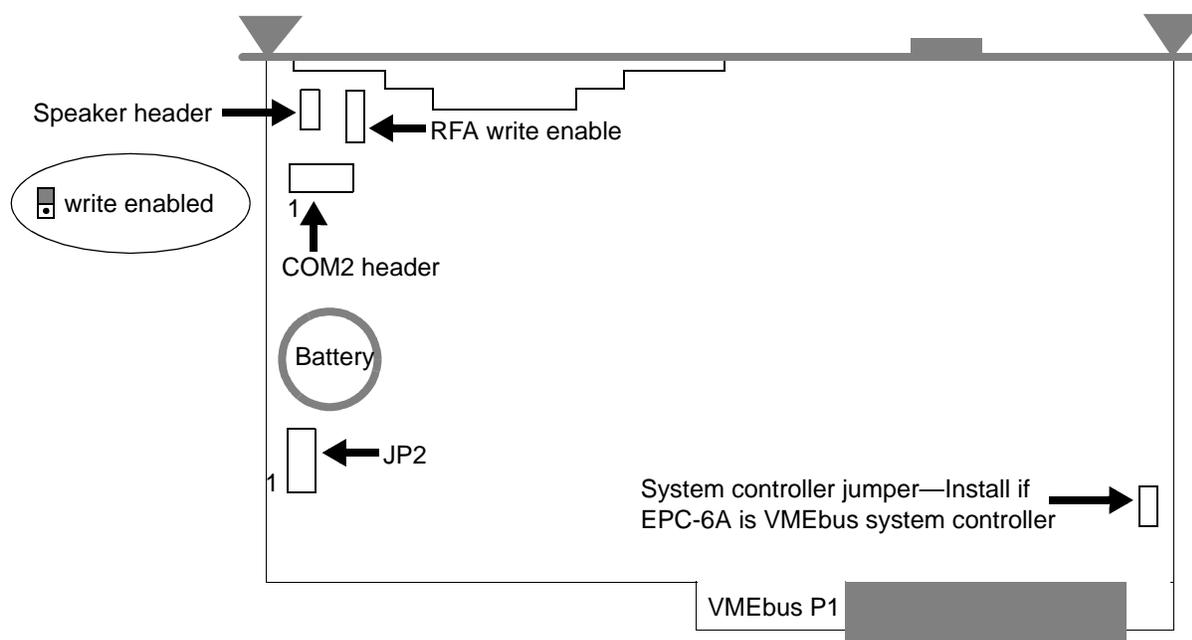

Figure 2-1. Jumper locations
- Make sure the jumper labelled SLOT1 is installed on the EPC-6A processor board to connect the two pins. For information about jumper locations, see Figure 2-1, *Jumper locations* on page 6.